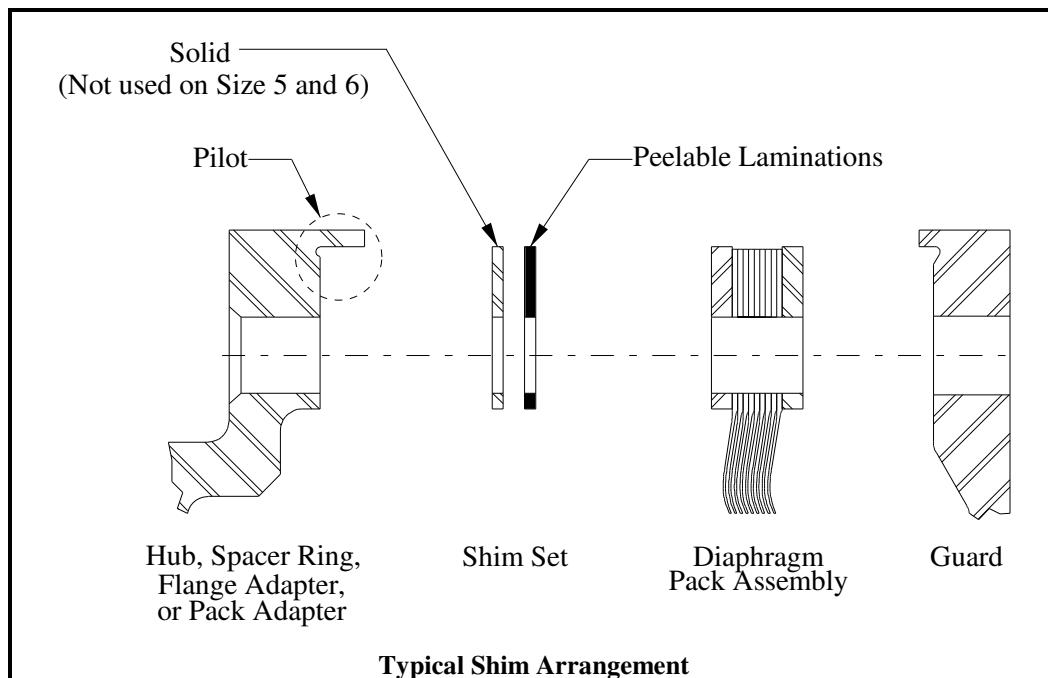
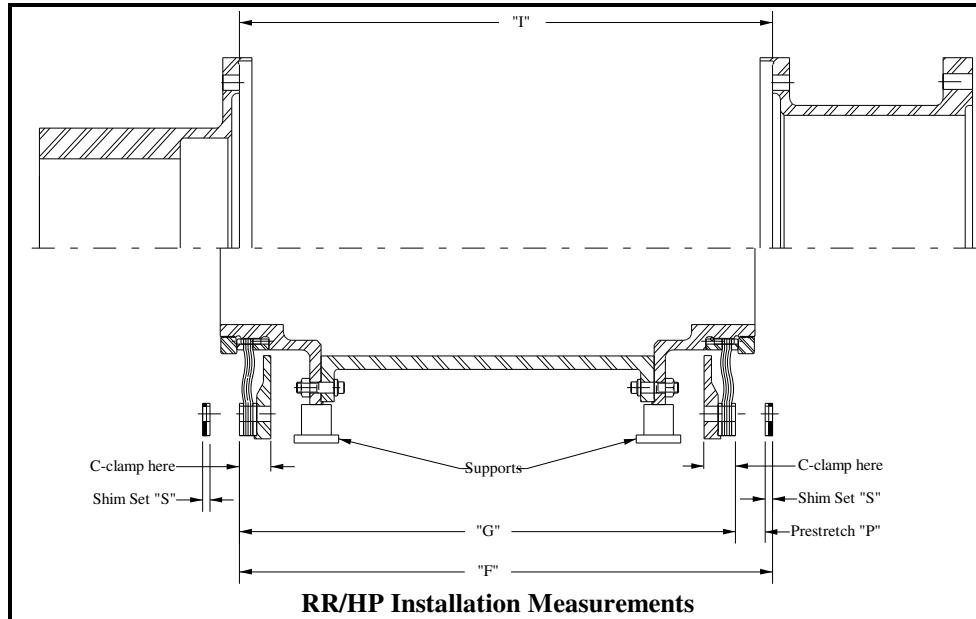

Figure 4-6
Figure 4-7
Shims are provided to adjust the length of the coupling at installation to accommodate variations in flange-to-flange dimensions ("I" dimension as shown in Figure 4-7 through 4-10) within the limits specified on the Ameridrives sales drawing. The coupling spacer is intentionally made short by the thickness of one shim set. This allows for flange-to-flange adjustability equivalent to the thickness of one shim set in either direction. Two shim sets are normally provided (see Figure 4-6). Refer to the Ameridrives Sales Drawing for location and quantity of shims.
4.4.1.1 Measure and record, on the worksheet in Paragraph 4.4.5, the installation Length "I" (distance between mounted flange faces) at four (4) places approximately  $90^{\circ}$  apart (see Figure 4-7).
4.4.1.2 Assemble the diaphragm pack sub-assemblies onto the spacer taking care to re-align the matchmarks and end identification letters. Install a minimum of four (4) bolts approximately  $90^{\circ}$  apart through each flange and tighten the bolts evenly in a criss-cross pattern to seat the pilots. Support as shown in Figure 4-7.
4.4.1.4 Measure and record, on the worksheet in Paragraph 4.4.5, the coupling free length "G" (distance between diaphragm pack sub-assembly outer diaphragm pack faces) at four (4) places approximately  $90^{\circ}$  apart. It is recommended that C-clamps be used to compress the diaphragm pack at the location the measurements are being taken (see Figure 4-7).